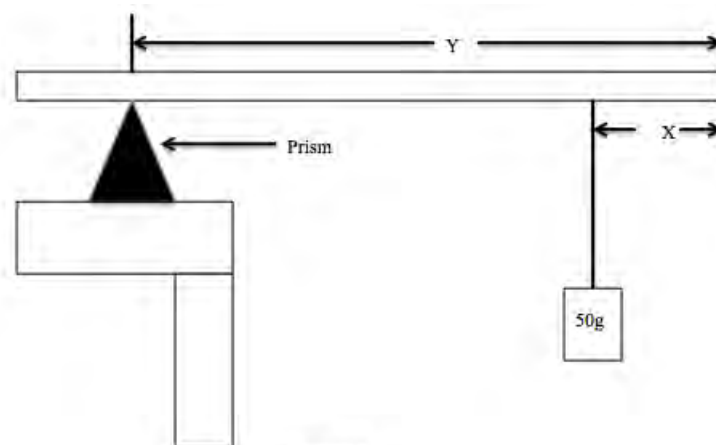

Figure 1
1. The aim of this experiment in Figure 1 is to determine the mass M_0 of the meter ruler provided.